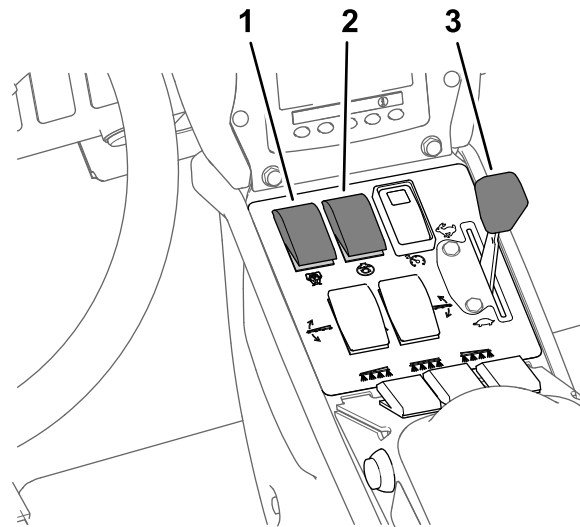

Figure 41
8. Set the agitation switch and the spray-pump switch to the ON position (Figure 41).
9. Set the throttle to the FAST position (Figure 41).
Note: This procedure assumes that the spray pump is on; refer to Figure 41 in Spraying in the Application Rate Mode (page 35).
4. Adjust the throttle to the desired engine speed to spray; refer to Figure 41 in Spraying in the Application Rate Mode (page 35).